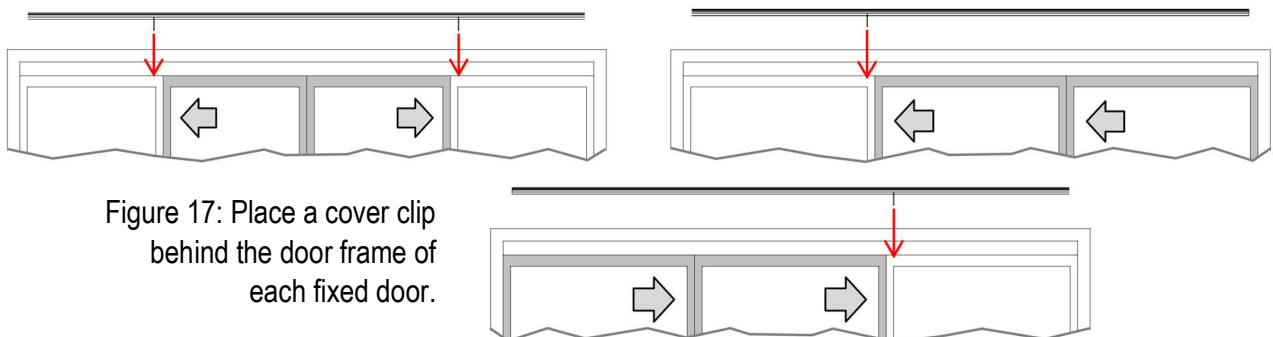

Figure 17: Place a cover clip behind the door frame of each fixed door.
1. Use a cover clip behind the door frame of each **fixed** (non-sliding) door (Figure 17). The door frame of the fixed door hides the clip from view on the other side of the door.
2. Slide each cover clip onto the base as in Figure 17. Make sure the other end of each cover clip (without sliders) **points towards the door**.